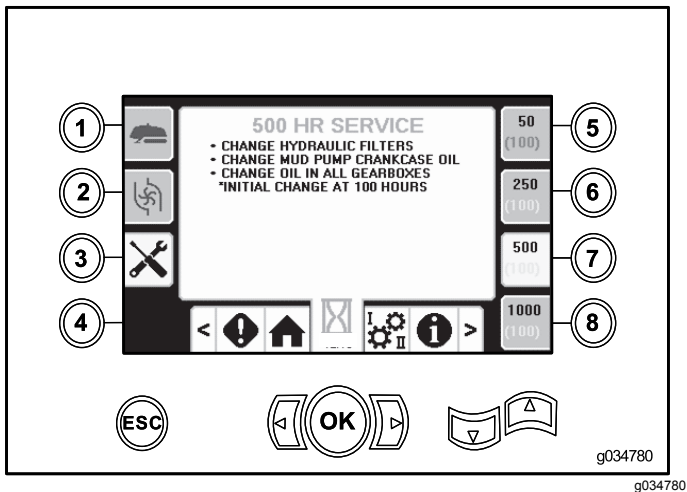

Figure 45
- Button 7—500-hour maintenance schedule (Figure 45)